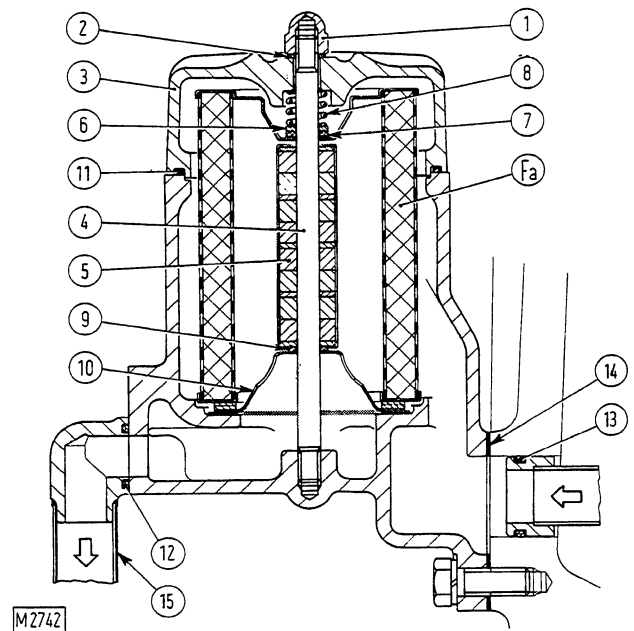

Fig. 34 - Cross-section through pump inlet filter.
- replace any damaged seals reassemble according to fig. 34.
- a full-flow filter (fig. 34) with a replaceable tin-plated steel wool element branched off the pump suction port;
- take off nut (1, fig. 34) to remove the filter cartridge (Fa) and magnetic rod (5);